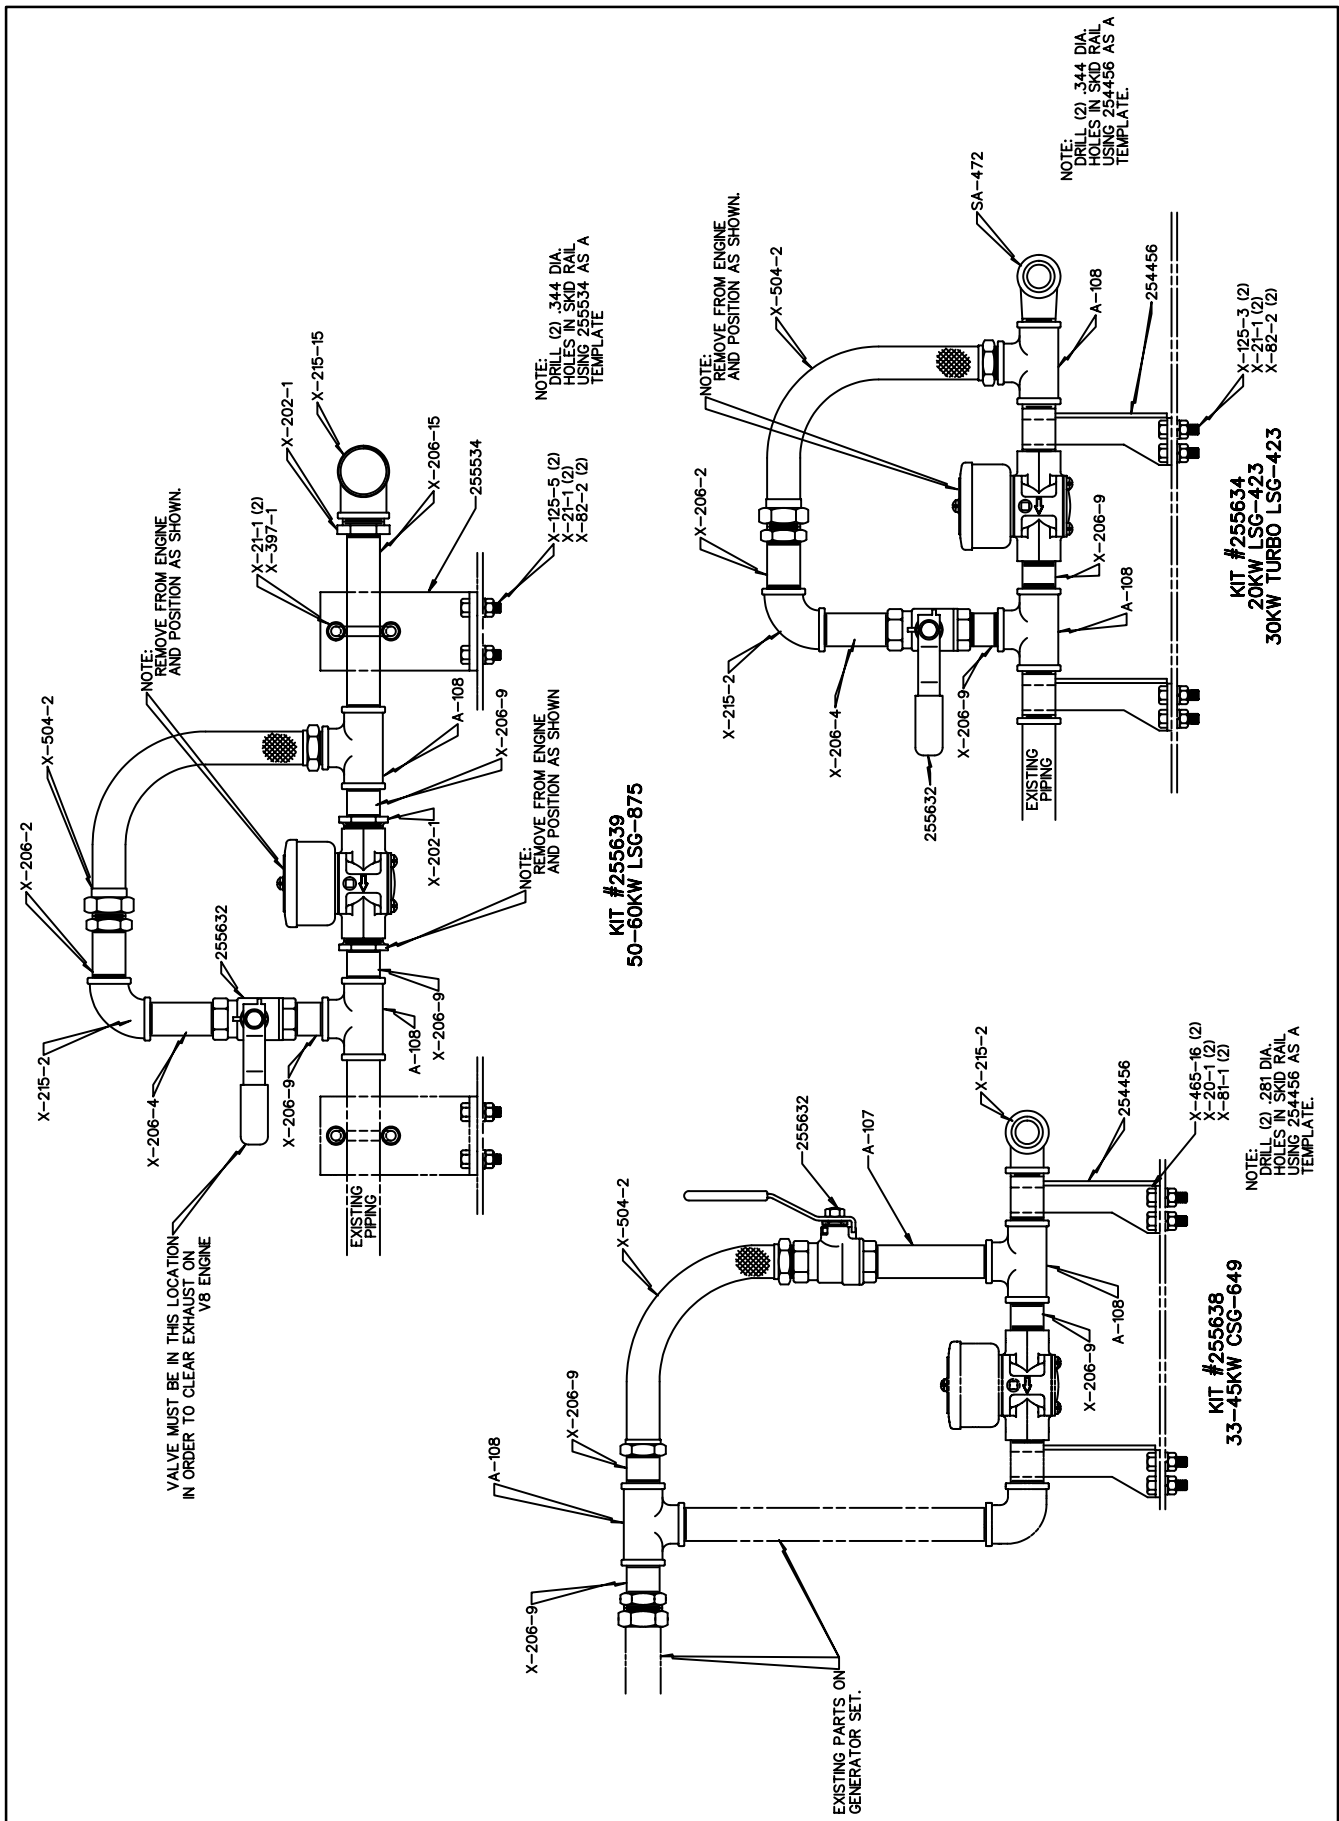

Figure 1. Installing Fuel Solenoid Bypass Valve
3. Assemble piping using Figure 1. In some cases it will be necessary to remove components from the engine. Use pipe sealant on all male threads of fittings.